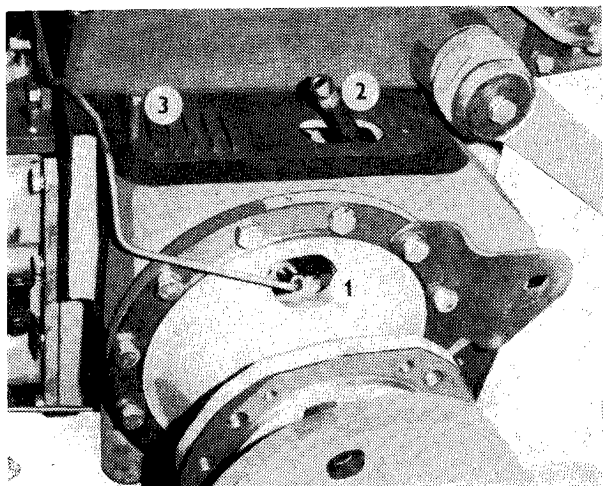

Fig. 34
Fill equalizer bowl (tank) with brake fluid and remove rubber cap (Fig. 34/1) from the brake cylinder bleeding screw. Slide the rubber cap onto the bleeding screw and immerse its other end into a transparent bowl partially filled with brake fluid. Then loosen the bleeding screw (plug), depress completely brake pedal and retighten the bleeding screw. Pedal may be released as late as after a duly screw retightening. Repeat the above procedure as long as brake fluid free of air bubbles starts escaping from the hose.
1. Unscrew the bolt fixing band guard (Fig. 34/3) and turn the guard.
3. Loosen lock nut (Fig. 34/2) and retighten band brake onto brake drum by means of a bottom nut.